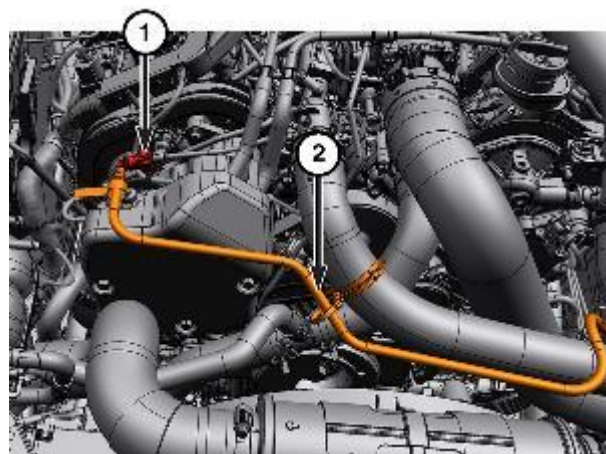

Figure 23 – Vacuum Line
6. Disconnect the quick-connect fitting (1) and set the vacuum line (2) aside (Figure 23).